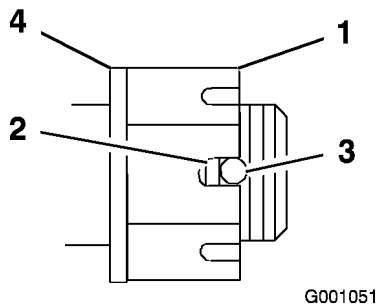

Figure 50
4. Torque the slotted nut to 125 ft-lb (170 N•m) (Figure 50).
5. Check the distance from bottom of slot in nut to inside edge of hole. Two threads or less should be showing (Figure 50).
7. Torque the slotted nut to 125 ft-lb. (170 N•m) (Figure 50).
8. Tighten the nut until the next set of slots line up with the hole in the shaft (Figure 50).